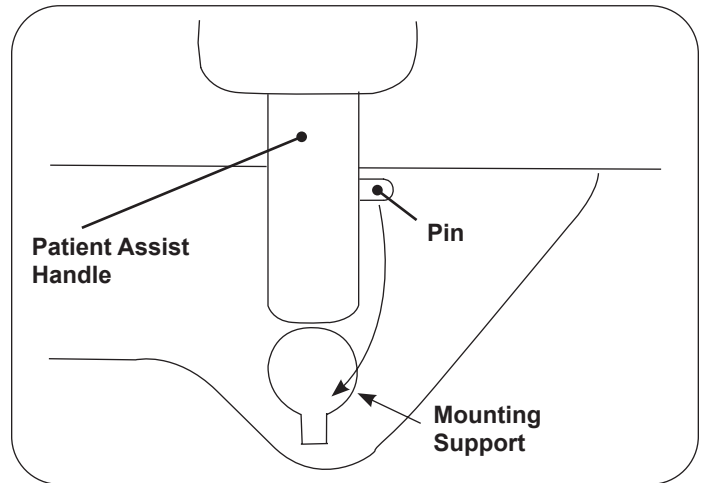

Figure 27. Patient Assist Handle
3. Align pin on Patient Assist Handle shaft with mating slot on side of table. See Figure 27.